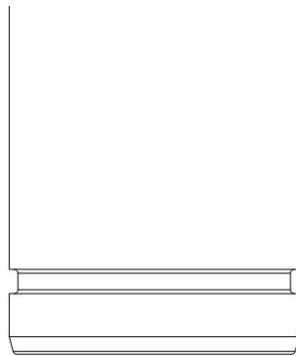

Figure 1. 4", 6", and 6.9" Certa-Lok/IB spigot end.
3. The 4", 6", and 6.9" nominal sizes of Certa-Lok/IB utilize a spline groove that is closer to the end of the pipe as shown below in figure 1. Because of this, in order to connect 4", 6", or 6.9" Certa-Lok CLIC casing to 4", 6", and 6.9" Certa-Lok/IB casing, you must use a Certa-Lok/IB to Certa-Lok CLIC adapter. The part numbers are included in the table below.